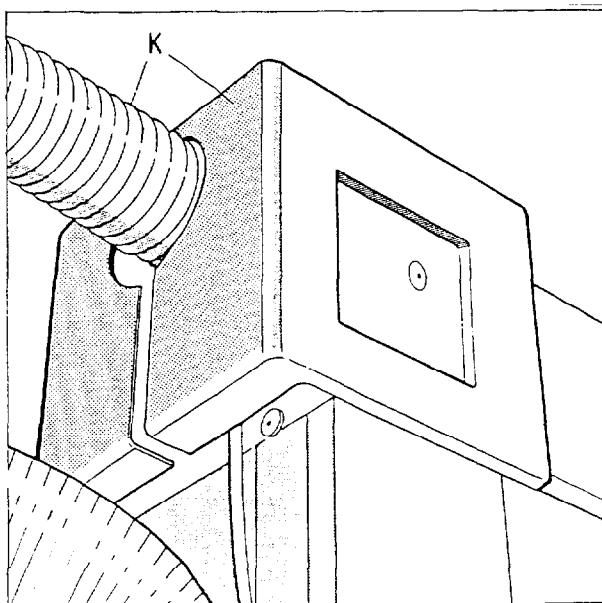

Fig. 4
- Install the two halves of cover K on the tube assy support arm (Fig.4).